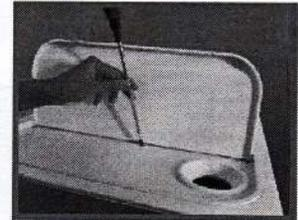

Fig9-1
- 1) Empty the tanks water, please refer to item 9.2 draining the water.
- 2) Open the tank cover board, you can use screw driver to loose the five screws just as fig9-1 indication.